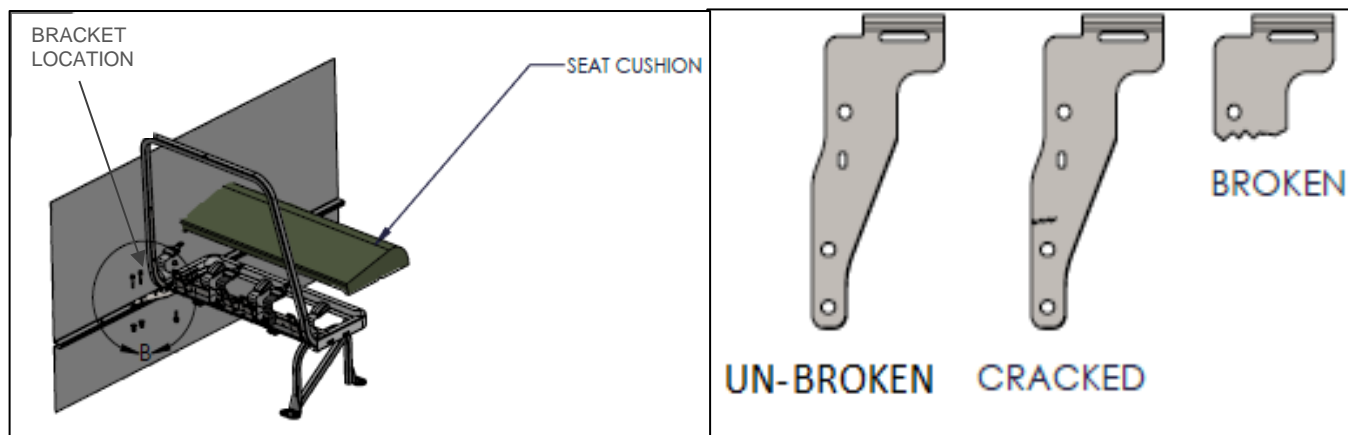

Figure 2: Bracket Location and Examples
3. Remove the lower seat cushion, retain for reinstallation. See **Figure 2**.
NOTE: The steps below are performed only when the original bracket is broken. See **Figure 2**.